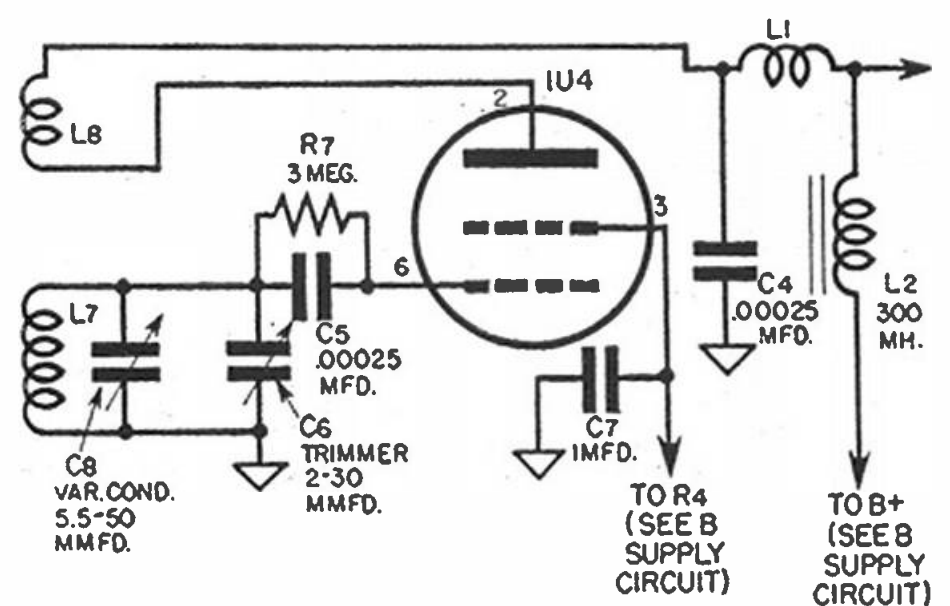

Fig. 8-19. Detector circuit.
d) *Detector Circuit.* Refer to Figure 8-19.